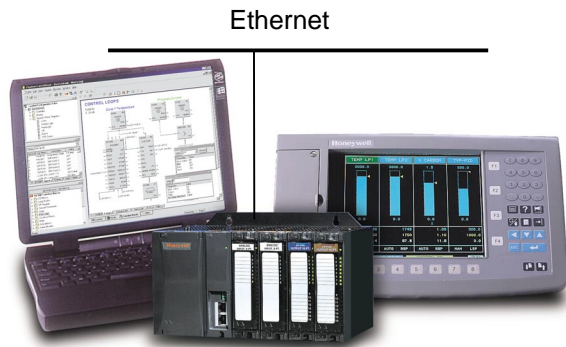

Figure 2: HC900 Hybrid Controller, Model 1042 OI and Hybrid Control Designer Software
**Overview.** The HC900 as shown in Figure 2 consists of a panel-mounted controller, available in 3 rack sizes along with remote I/O, connected to a dedicated Operator Interface (OI).